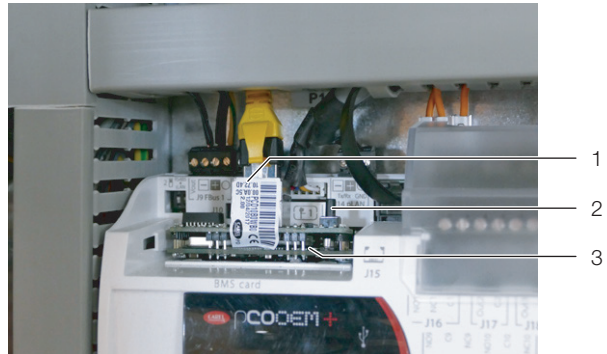

Fig. 41: pCO Web card
- Press the Reset button (fig. 41, item 2), if necessary with the assistance of a second person, and keep it held down for around 20 seconds whilst the card is booting up, until the status LED flashes three times slowly.